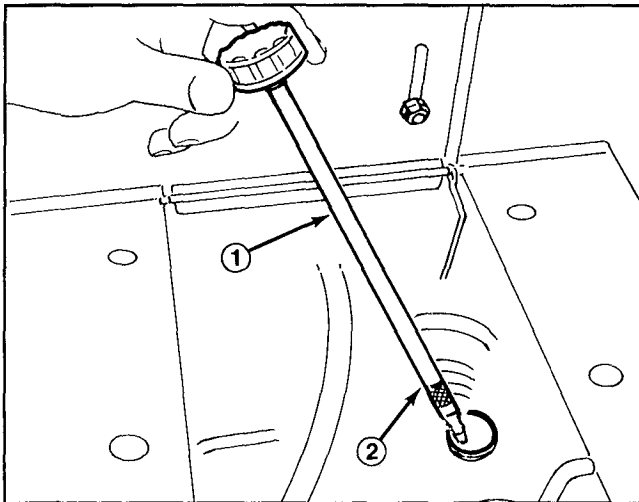

Figure 4
3. Remove dipstick from fill tube (Fig. 4).
5. Slowly pour oil into crankcase (Fig. 4). The engine uses any high quality detergent oil having the American Petroleum Institute — API — "service classification" MS, SC, SD or SF. Oil viscosity — weight — must be selected according to anticipated ambient temperature.
6. Rock the rider gently to release any air that may be trapped in crankcase. Screw dipstick fully into fill tube; then remove it and make sure that oil level is up to FULL mark on dipstick (Fig. 4). If level is low, add only enough oil to bring level up to FULL mark.